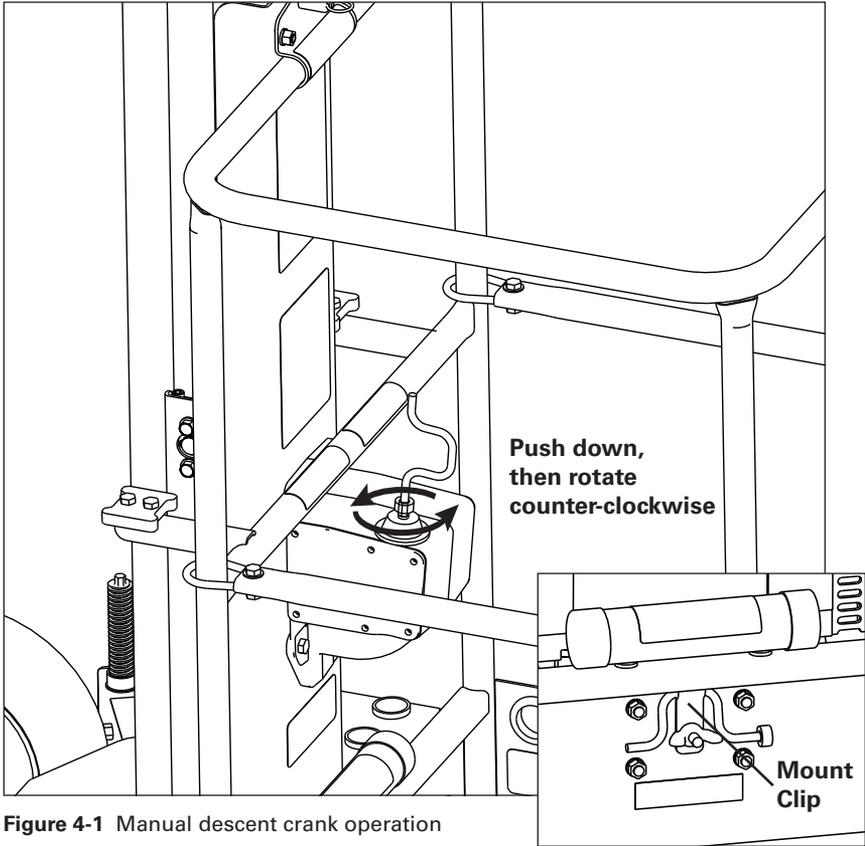

Figure 4-1 Manual descent crank operation
5. Push down on the top of the handle to disengage the drive shaft brake and wind counterclockwise until the platform lowers to the fully lowered position. (see Figure 4-1)